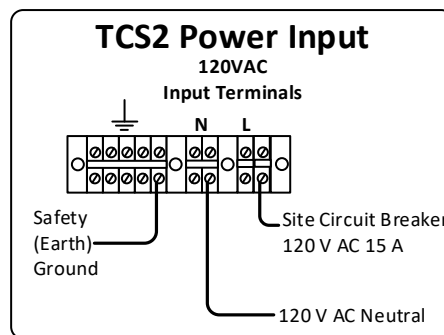

Figure 2: AC Wiring
- 3) Connect the AC power wires from your 120VAC power. See Figure 2: AC Wiring.